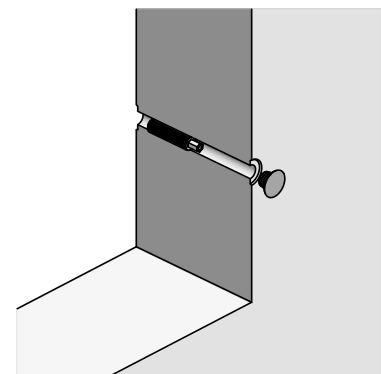

Fig. 79.4
4. Plug the tie hole (Fig. 79.4 and page XT-76).